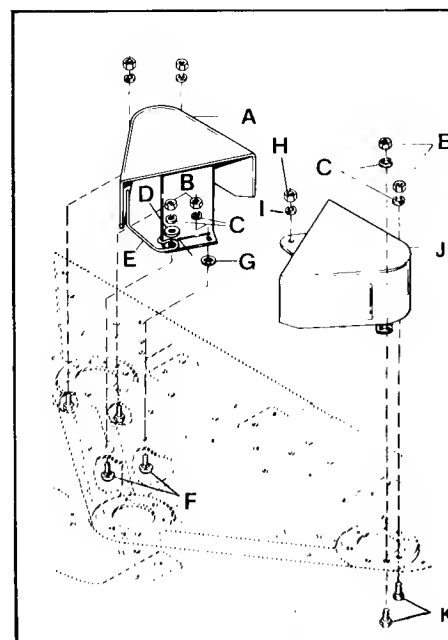

Figure 29. Arbor Covers - 42" Mower
3. Remove the right arbor cover by removing two carriage bolts in front and two capscrews in rear (see figure 29). Remove the nut (H) and lockwasher (I) which secures left arbor cover to the idler pulley. Remove the two capscrews (K) which secure the rear of the left arbor cover.